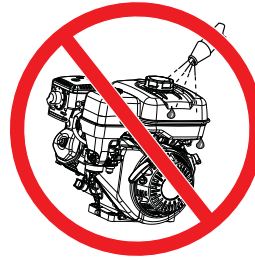

Figure 35. No Spraying of Water
8. **NEVER!** pour or spray water over the engine (Figure 35).